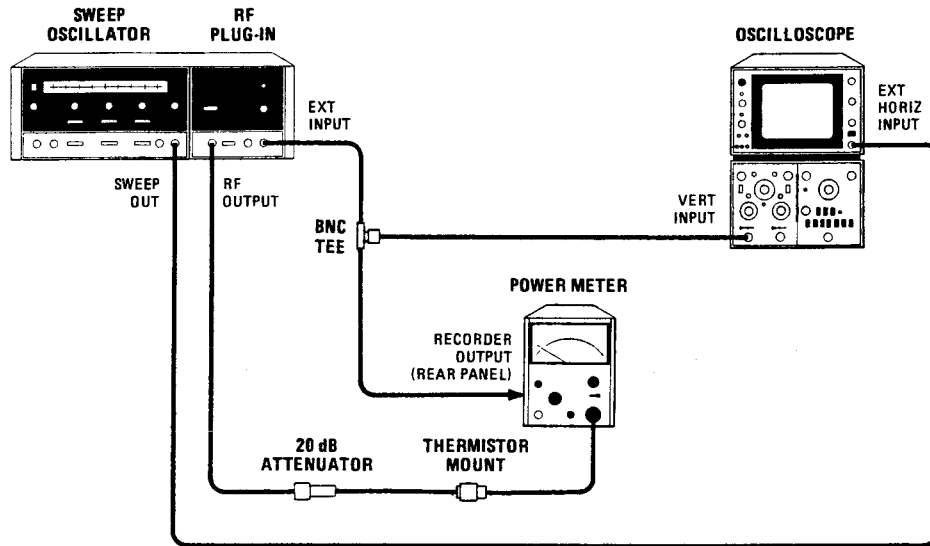

Figure 4-8. Power Meter Leveling Test Setup
h. Connect equipment as shown in Figure 4-8.